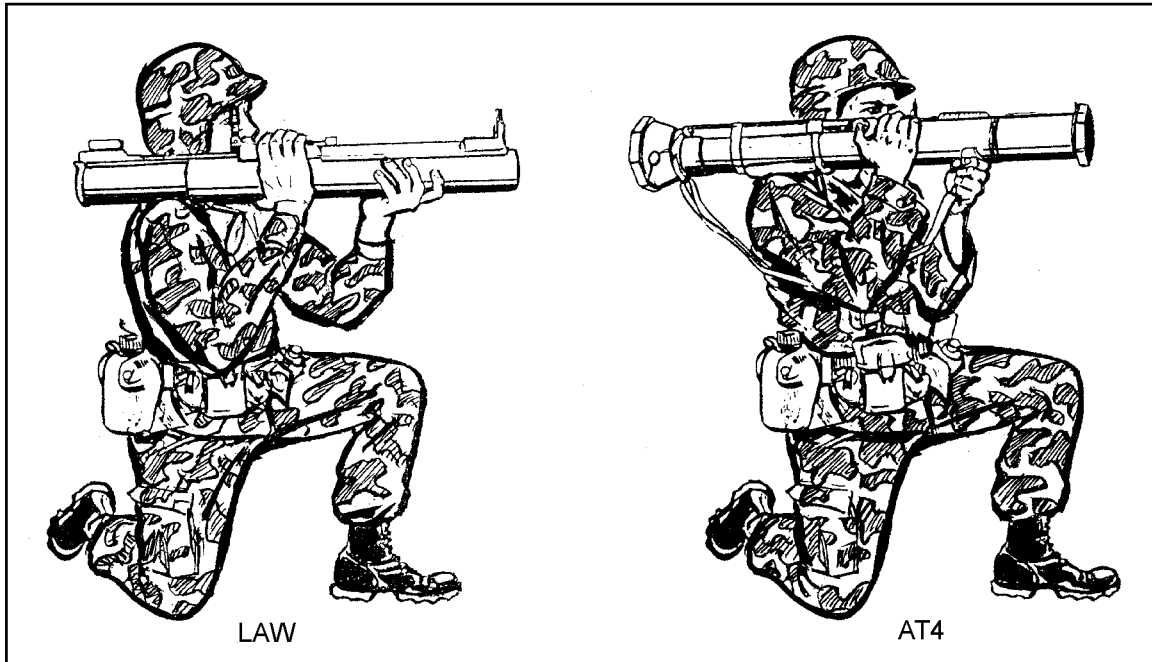

Figure 5-4. Basic kneeling positions.
a. **Basic Kneeling Position.** Kneel from the basic standing position onto your right knee, keeping your left thigh parallel to the ground. Rotate your lower right leg 90 degrees to the left. (This removes your right foot from exposure to the backblast.) Keep your right thigh and back straight and perpendicular to the ground. Point your left foot in the direction of fire and tuck your elbows in to your sides. Though this is not a supported position, it should be a firm, stable one. Figure 5-4 shows the basic kneeling positions for the LAW and AT4.